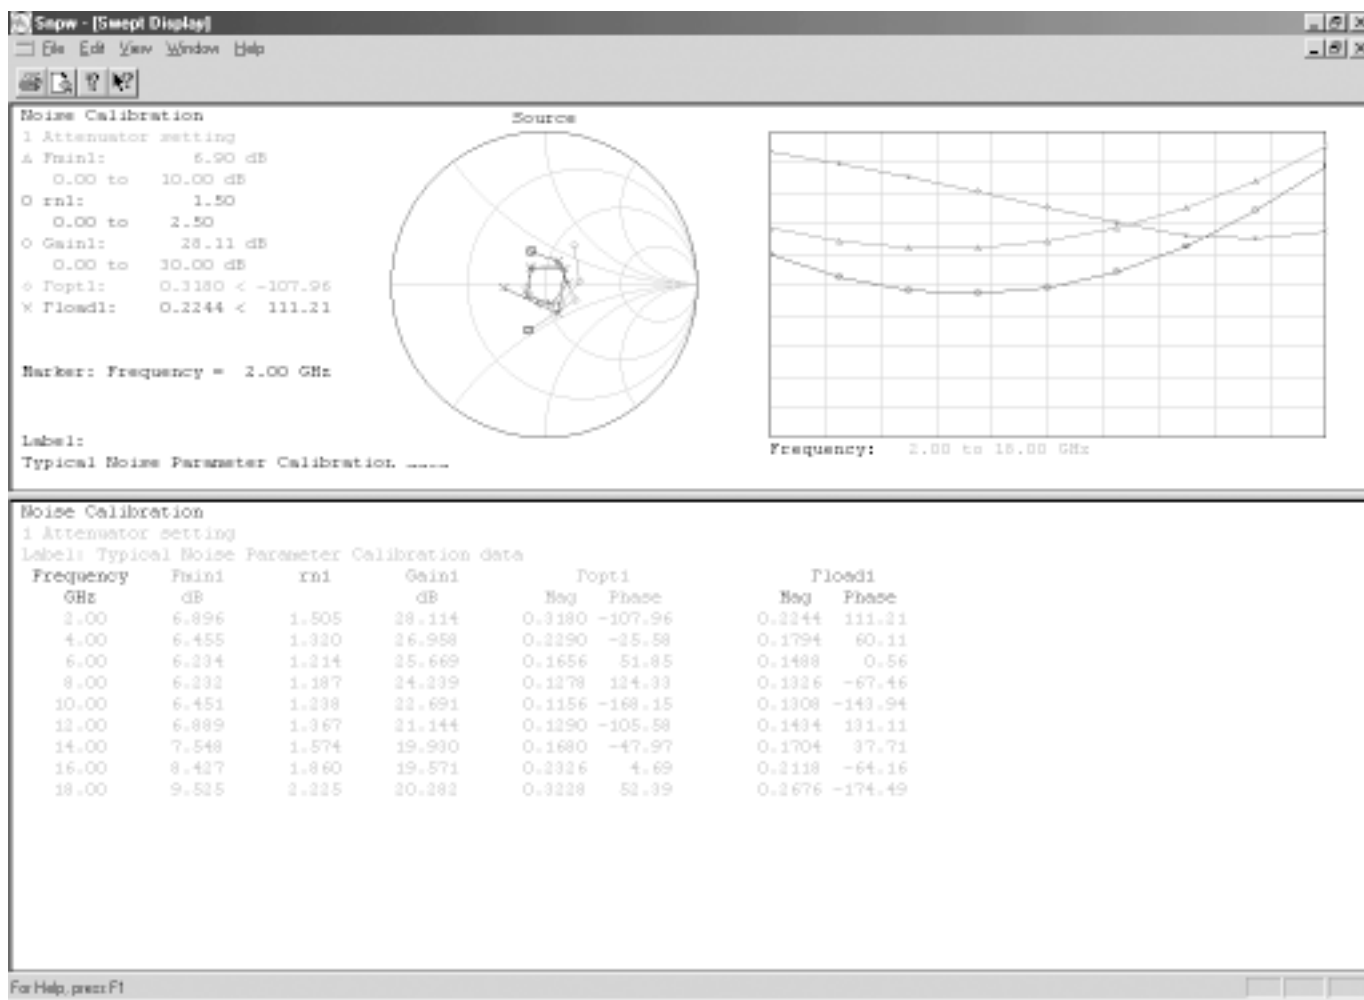

Figure 5-5. Noise Calibration Display
- g. After completing the file save dialog, the noise calibration display shown in Figure 5-5 will be visible.